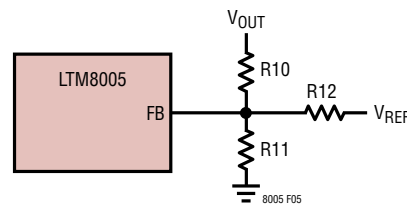
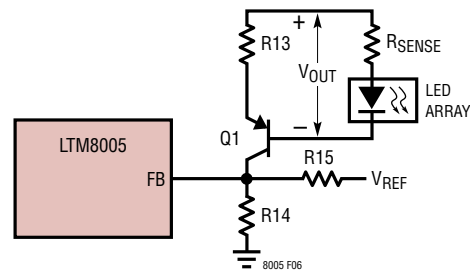

Figure 5. Feedback Resistor Connection for Wide Range Output in Boost and SEPIC Applications
Figure 6. Feedback Resistor Connection for Wide Range Output in Buck-Boost Mode or Buck Mode Applications
0.45A or FB drops below 1.19V (typical). The SHORTLED pin is asserted if the output current is about 2.4A or the FB pin falls below 300mV (typical) after initial start-up and SS reaches about 1.7V. The ratio between the FB OPENLED threshold of 1.2V and the SHORTLED threshold of 0.3V can limit the range of V_{OUT}. The range of V_{OUT} using the maximum SHORTLED threshold of 0.35V is about 3.5:1. The range of V_{OUT} can be made wider using the circuits shown in Figure 5 and Figure 6. For a V_{OUT} range that is greater than 8:1, consult factory applications.
The equations to widen the range of V_{OUT} are derived using a SHORTLED threshold of 0.35V, an OPENLED threshold of 1.2V and a reference voltage V_{REF} of 2V. The resistor values for R11 and R12 in Figure 5 can be calculated as shown below. See the example that follows for a suggested R10 value.
The resistor values for R_{14} and R_{15} in Figure 6 can be calculated as shown below. See the example that follows for a suggested R_{13} value.